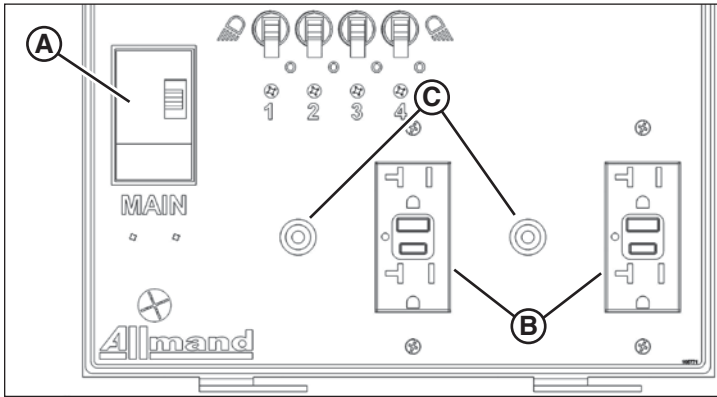

Figure 31
- Two GFCI outlets (B, Figure 31), each protected by a 20A circuit breaker (C), OR
Power is supplied to the outlets of any outlet package only when the engine / generator is running and the main circuit breaker (A, Figures 31 - 34) is in the ON position.